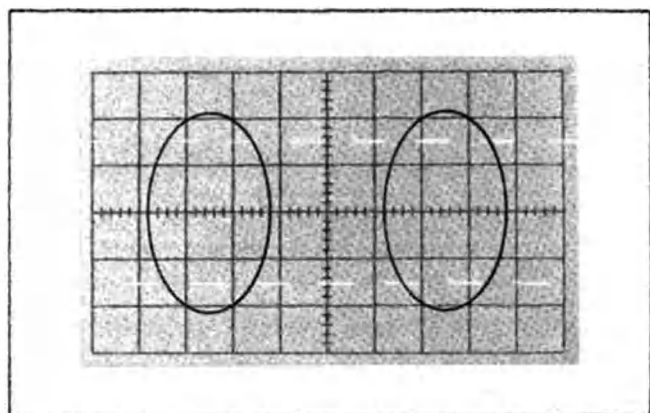

Fig. 2-8. Focus and Astigmatism adjustment waveform.
Adjust the VARIABLE (VOLTS/DIV) to obtain 3 divisions of vertical amplitude. Center the trace as shown in Fig. 2-8.
**ADJUST**—ASTIG and FOCUS controls until the corners of the square wave provide optimum sharpness. Concentrate on the areas contained in the ovals in Fig. 2-8 to obtain best overall focusing. Once FOCUS and ASTIG have been set, changes in intensity should only require readjustment of the focus control.